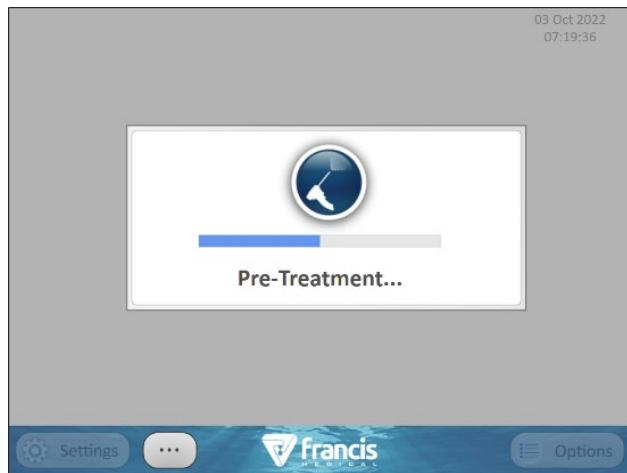

Figure 11-18: Pre-Treatment Status
- The Generator screen will display "Pre-Treatment..." and a status bar (**Figure 11-18**)